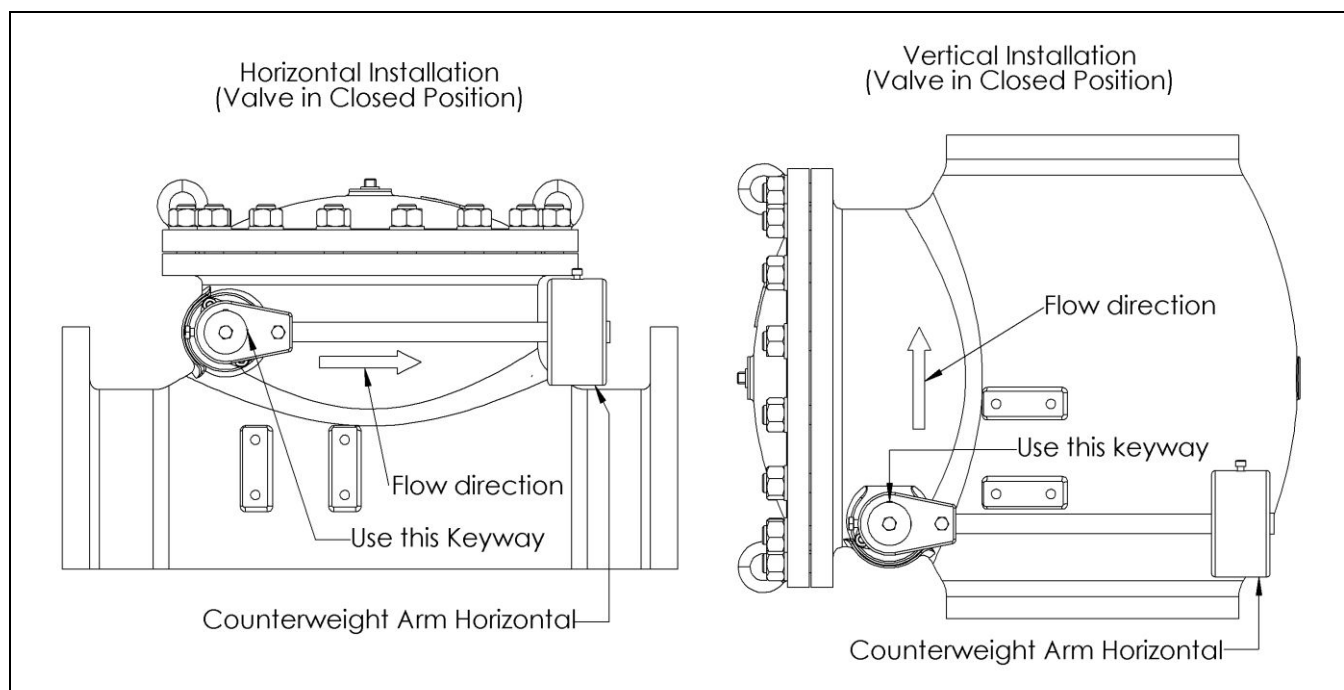

Figure 1 – Counterweight Arm Position
- See Figure 3 and 4 for component identification. On Lever and weight valves, to change the counterweight arm position from horizontal to vertical installation, unscrew Lever Arm to Shaft Set Screw (B57), remove Counterweight Lever Arm Washer (B56), loosen the Lever Weight Assembly Set Screw (B55), slide the counterweight arm assembly off the Shaft (A13), rotate the counterweight arm assembly and slide it back onto the Shaft (A13) using the appropriate keyway shown in Figure 1.